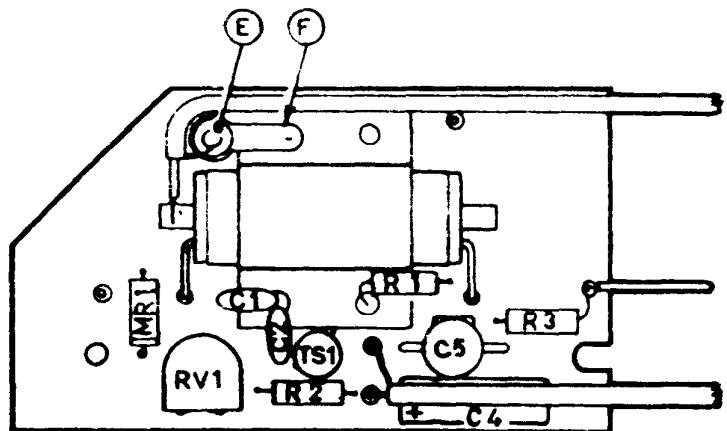

Figure 3-10 U14 Protection Unit Layout
- (1) Remove Protection Unit U14 from the honeycomb.
- (2) Remove 0.01 μF ceramic disc capacitor C3 and replace with 1nF feedthrough capacitor (item E) and .202 solder lug (item F) as shown in figure 3-10. Retain C3 circuit designation.